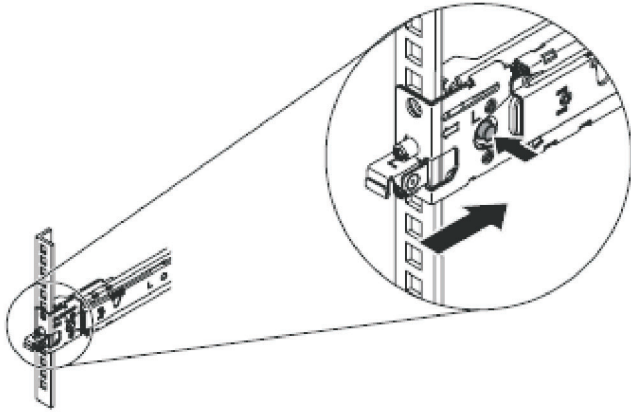

Figure 50. Installing the front end of the slide rails
5. Install the front end of the slide rails, as shown in Figure 50 on page 69.